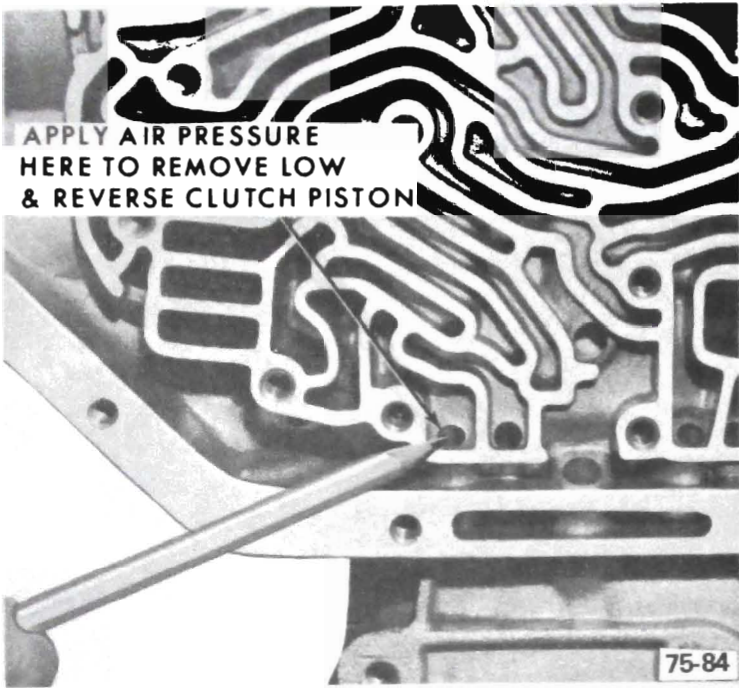

Figure 75-119
3. Remove low and reverse clutch piston assembly. Aid removal with the use of compressed air in passage shown. See Figure 75-119.